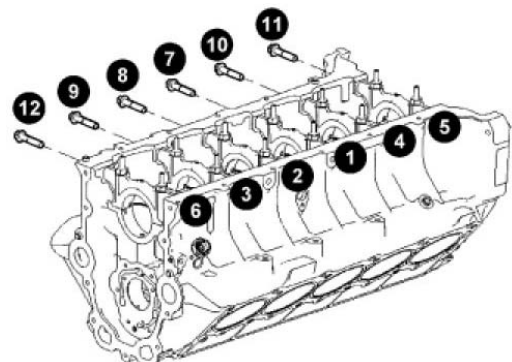

Figure 2 - Main Cap Side Bolt Torque Sequence
11. **Lubricate the main cap side bolt threads and bottom side of the bolt head with ARP Ultra-Torque Fastener Assembly Lubricant.** Following the manufacturer's recommended torque sequence, Figure 2, tighten the main cap side bolts per the steps below: